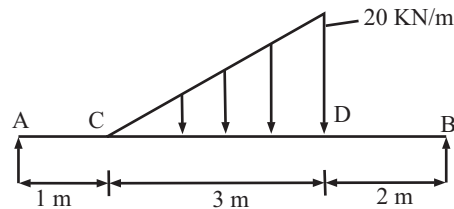

Fig 7
- Q.7.** Draw SF diagram for simply supported beam shown in fig 7. Dec-03(C.O.)